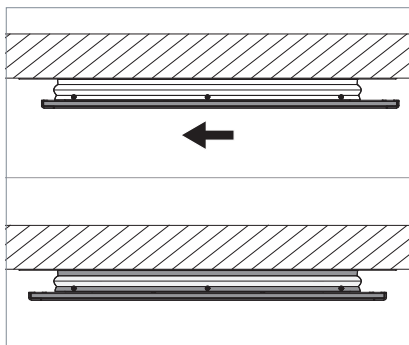

Fig. 10: Mounting the direct light element.
- ▶ Push the direct light element to the left as far as possible, see Fig. 10.